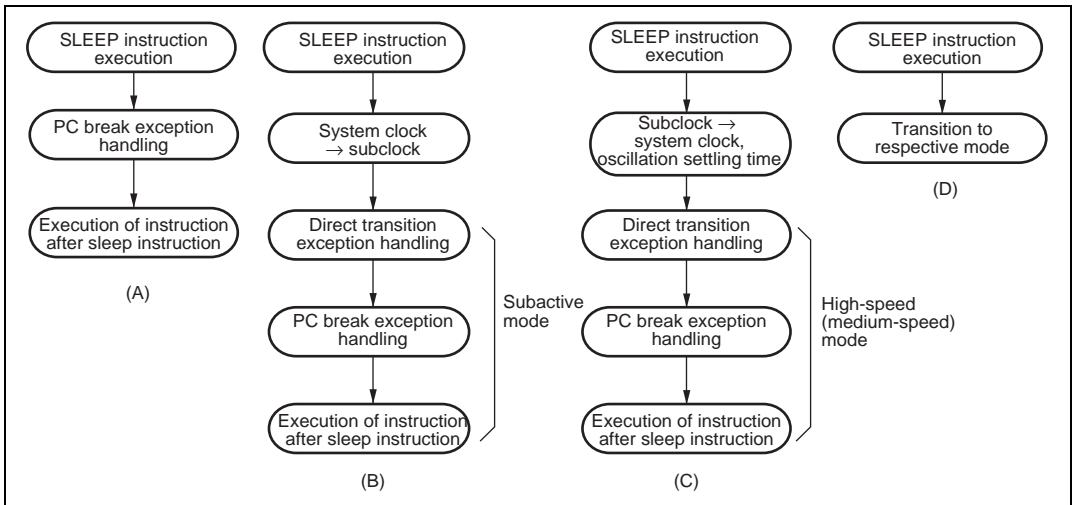

Figure 6.2 Operation in Power-Down Mode Transitions
After execution of the SLEEP instruction, a transition is not made to sleep mode, and PC break interrupt handling is executed. After execution of PC break interrupt handling, the instruction at the address after the SLEEP instruction is executed (figure 6.2 (A)).
- When the SLEEP instruction causes a transition from high speed mode to subactive mode (figure 6.2 (B)).
- When the SLEEP instruction causes a transition from subactive mode to high speed (medium speed) mode (figure 6.2 (C)).
After execution of the SLEEP instruction, a transition is made to the respective mode, and PC break interrupt handling is not executed. However, the CMFA or CMFB flag is set (figure 6.2 (D)).